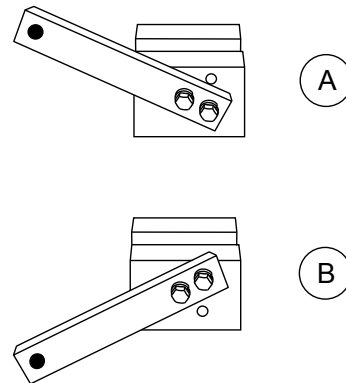

Figure 38. Trowel Arm Adjustment Setup
2. Ensure the fixture arm is in the proper setting (up or down) for your trowel arm rotation as shown in Figure 38.
Arms with **clock-wise** blade rotation use the fixture arm in the UP position (A in Figure 38). Arms with **counter clock-wise** blade rotation use the fixture with the fixture arm in the DOWN position. (B in Figure 38).